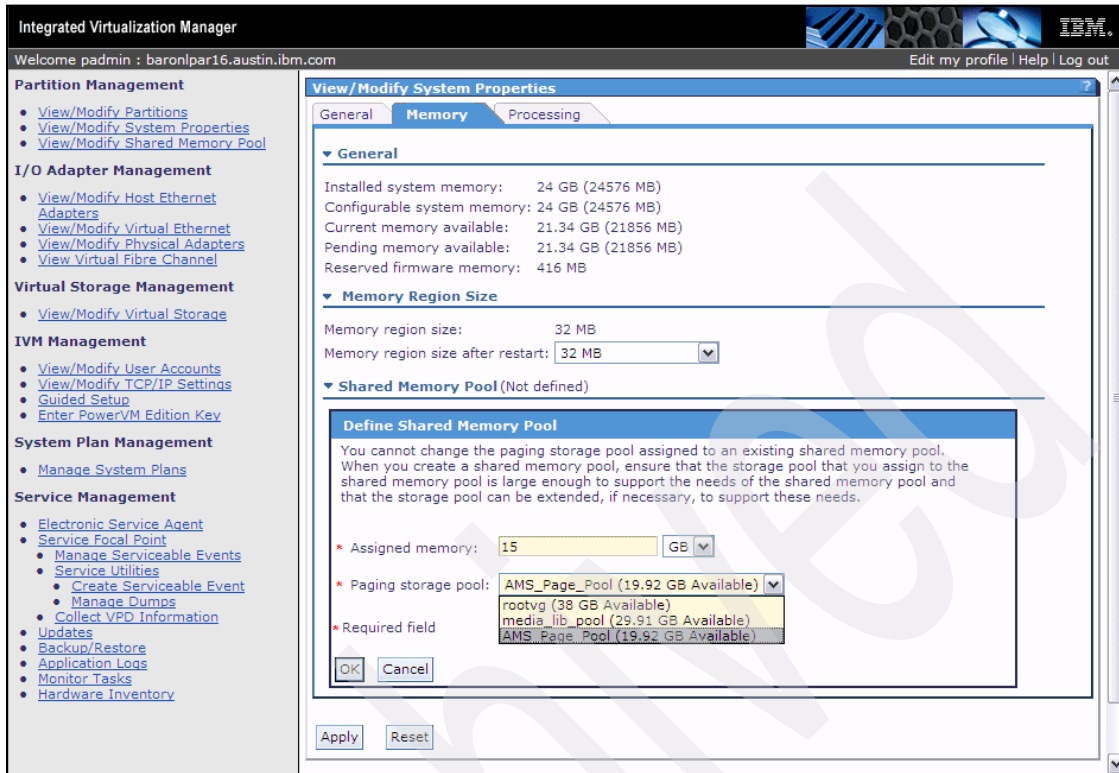

Figure 5-6 Shared memory pool configuration values
- Click **Define Shared Memory Pool**. The dialog opens where you input the desired memory pool size and the storage pool to be used for the paging storage pool. After entering the information and selecting values from the drop-down box, as shown in Figure 5-6 on page 184, click **OK**.